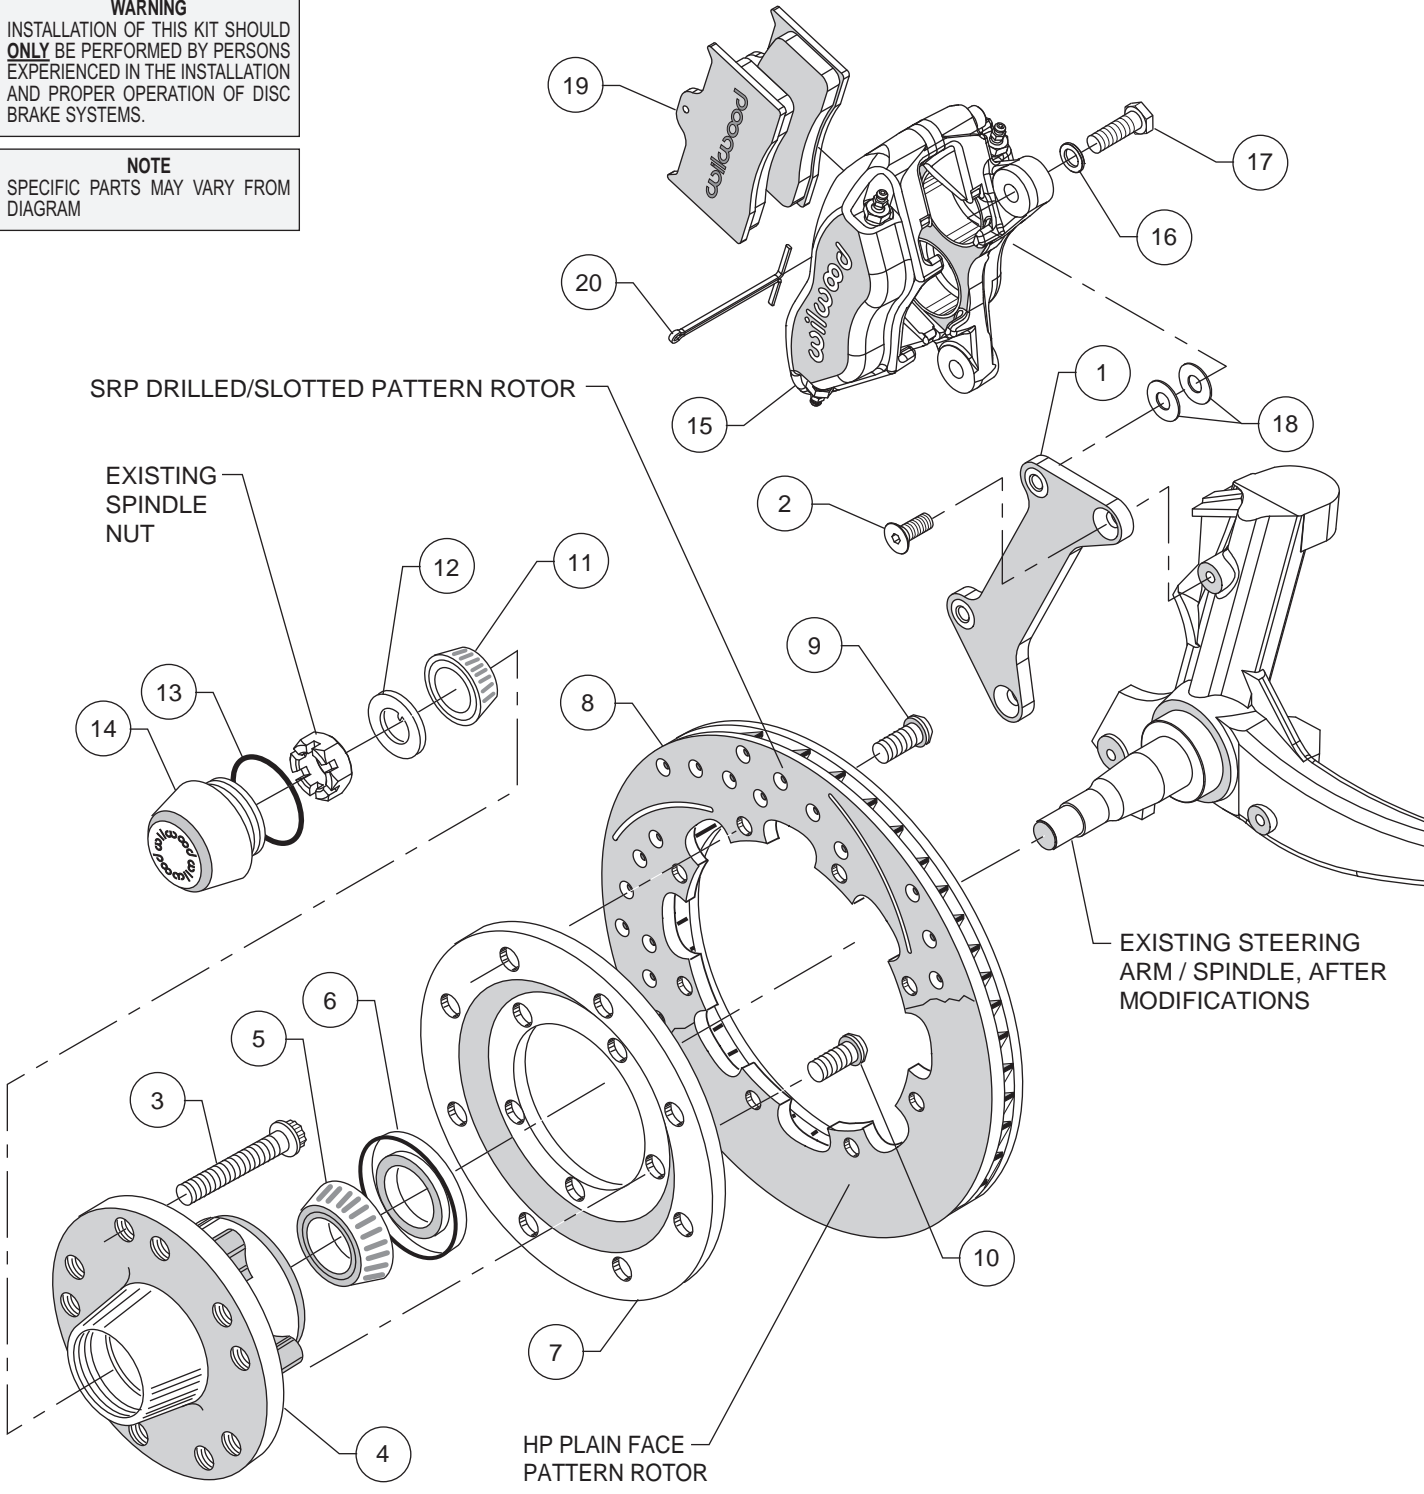
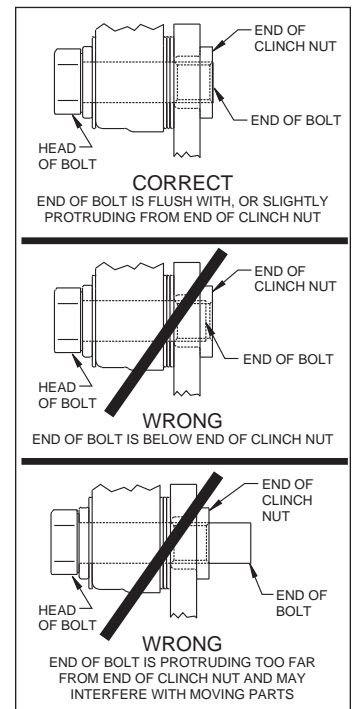

Figure 2. Typical Installation Configuration
Figure 4. Clinch Nut Engagement Diagram
Assembly Instructions (numbers in parenthesis refer to the parts list, and Figure 2): **CAUTION:** All mounting bolts must fully engage clinch nuts. Be sure to check that all bolts are either flush or protruding through flanged side of clinch nut after shimming, Figure 4.
- Align caliper mounting bracket (1) with the corresponding holes, to the face of the spindle. Attach using bolts (2) as shown in Figure 2 and Photo 1. Temporarily tighten the mounting bolts. Ensure that the flanged heads of the clinch nuts in the bracket are facing outboard, Photo 1. **NOTE:** The bracket must fit squarely against the mounting points on the spindle. Inspect for interference from casting irregularities, machining ridges, burrs, etc. Remove bolts one at a time, apply red *Loctite*® 271 to threads and torque to 40 ft-lbs.
- Orient the rotor (8) and the rotor adapter (7) as shown in Figure 2 and Photo 4. Attach the rotor to the adapter using bolts (9). Using an alternating sequence, apply red *Loctite*® 271 to the threads, and torque to 25 ft-lb.
- Mount the adapter/rotor assembly (7/8) to the hub (4) using bolts (10), as shown in Figure 2 and Photo 5. Using an alternating sequence, apply red *Loctite*® 271 to the threads, and torque to 45 ft-lb.
- NOTE:** Please reference the caution statement at the beginning of the assembly instructions. Mount the caliper (15) onto the caliper mounting bracket (1) using bolts (17) and washers (16), as shown in Figure 2. Initially place two .035" thick shims (18) on each bolt between the caliper and the bracket, Photo 8. Temporarily tighten the mounting bolts and view the rotor (8) through the top opening of the caliper. The rotor should be centered in the caliper, Photo 9. If not, adjust by adding or subtracting shims between the bracket and the caliper. Always use the same amount of shims on each of the two mounting bolts. **NOTE:** The end of each bolt must be flush with or slightly protruding from the head of the clinch nut, as shown in Figure 4. If necessary place spare shims between washer (16) and caliper mounting ear to achieve the proper clinch nut engagement. Once the caliper alignment and clinch nut engagement are correct, remove the bolts one at a time, apply red *Loctite*® 271 to bolt threads, and torque to 40 ft-lb.